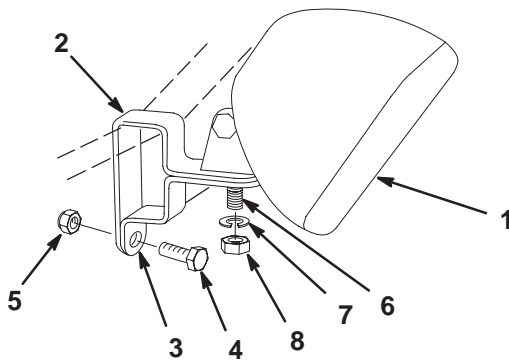

Figure 1
1. To attach the side light, place the upper bracket on the left-hand frame rail approximately 7/8 in. (22 mm) from the deck mounting arm. Secure the lower bracket to the upper bracket with a bolt (1/4 x 5/8 in.) and locknut (Fig. 1).
2. Attach the light to the brackets with a hex. head screw (5/16 x 1 in.), lock washer, and nut (Fig. 1).